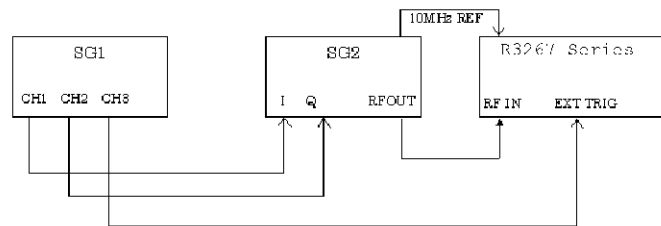

Figure 6-2 Setup of Code Domain Power Accuracy Measurement (FORWARD Link)
1. Connect equipment as shown in Figure 6-2.